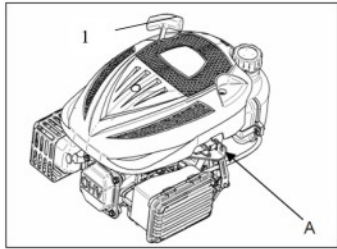

Fig 3 A. cable hole
Do not allow the starter grip (1) to snap back against the engine. Return it gently to prevent damage to the starter. (Fig.3)